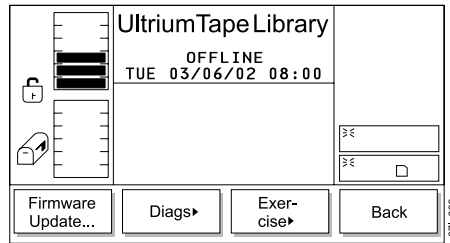

Figure 330. Library Submenu
3. Press the button below the **Library** softkey. The Library Submenu displays (see Figure 330 on page 219).